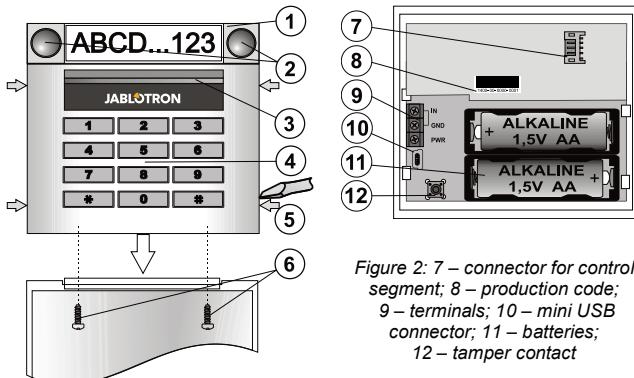

Figure 1: 1 – control segment;
- Press the four tabs (5) on the sides (see figure 1) one by one and release the module from the plastic base.
- Connect the segment wires to the internal connector of the module (7).